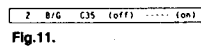

Fig. 11.
- c Press OK. The "SEARCH" position is highlighted and the selected channel is now stored. (See Fig. 11.)